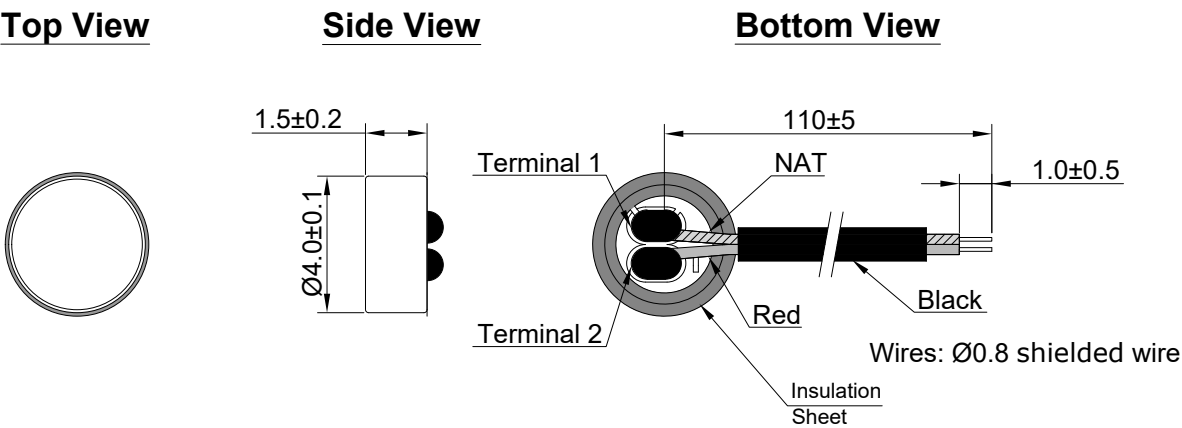

Figure 4. HBO0403D-55/1212 Mechanical Layout
4.3.1. Layout and Dimension : See section 6, figure 4